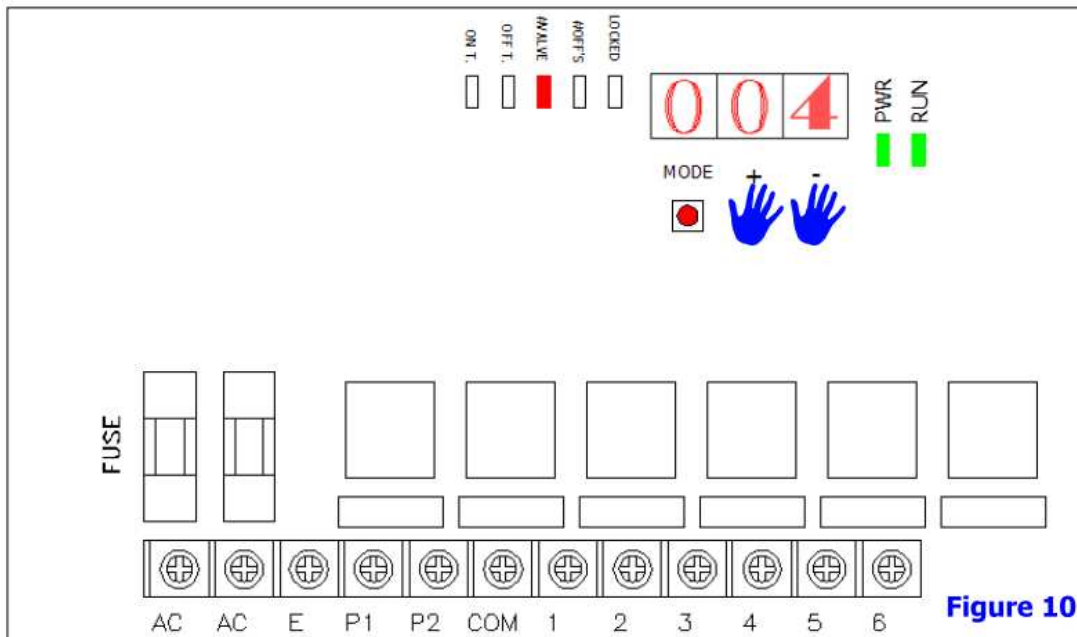

Figure 10
- Press "+" or "-" to adjust the valve quantities (figure 10).